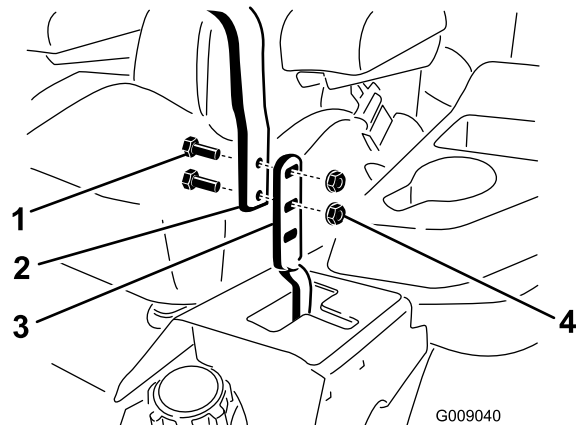

Figure 84
3. Loosen the bolts and flange nuts installed in the levers (Figure 84).